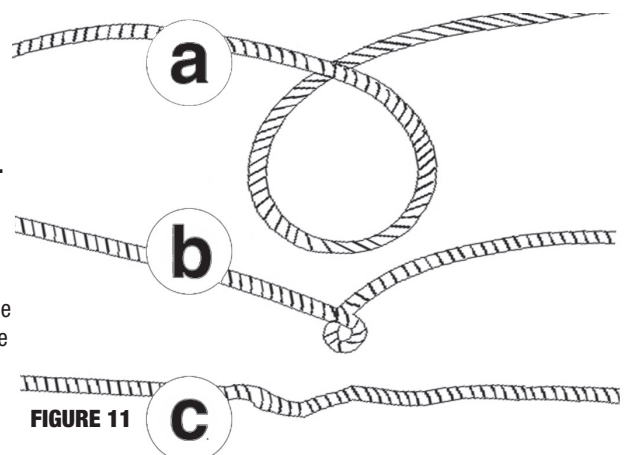

FIGURE 11
- 5. EMPÊCHEZ LE CÂBLE MÉTALLIQUE DE SE VRILLER AVANT QUE CELA NE SE PRODUISE. (FIGURE 11)**